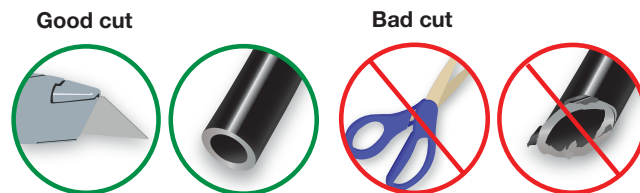

Fig. 28
2. Cut the air line in half. Make clean, square cuts with a razor blade or hose cutter (Fig. 28). Do not use scissors or wire cutters.